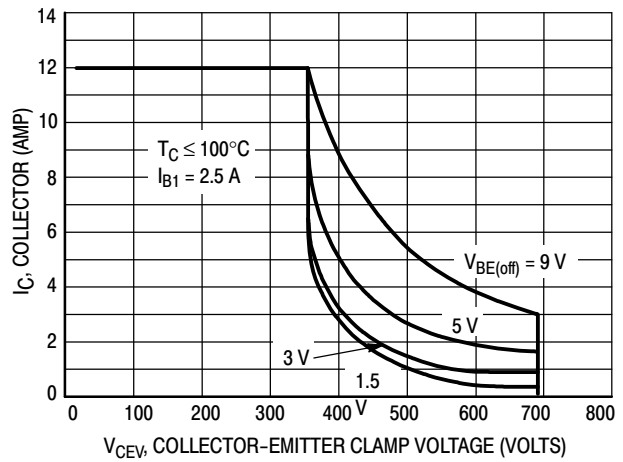
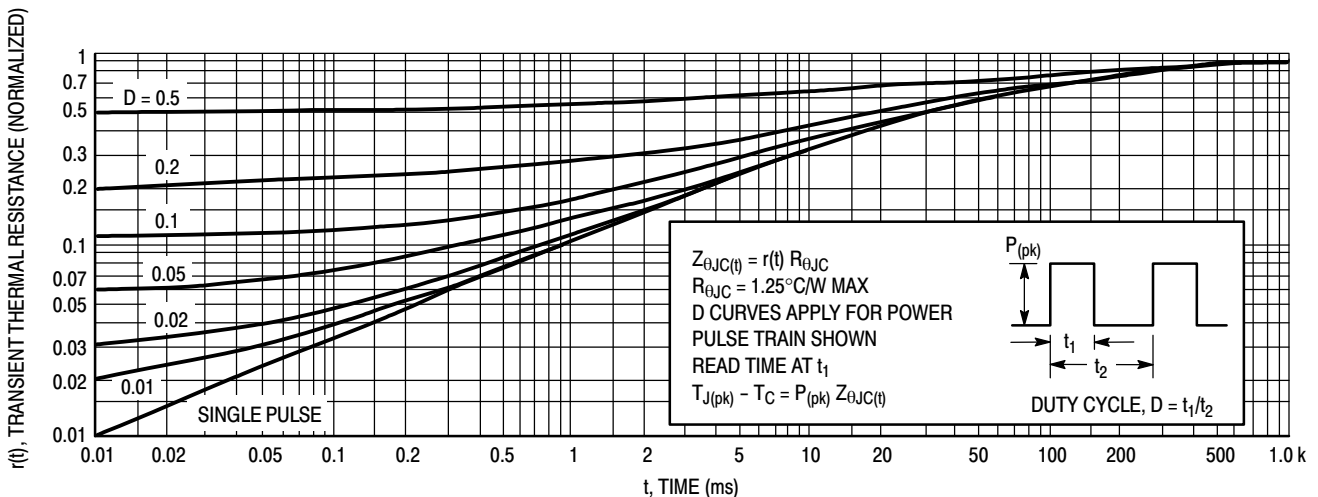

Figure 2. Reverse Bias Switching Safe Operating Area
Figure 4. Typical Thermal Response $[Z_{\theta JC}(t)]$
$T_{J(pk)}$ may be calculated from the data in Figure 4. At high case temperatures, thermal limitations will reduce the power that can be handled to values less than the limitations imposed by second breakdown. Use of reverse biased safe operating area data (Figure 2) is discussed in the applications information section.
For inductive loads, high voltage and current must be sustained simultaneously during turn-off, in most cases, with the base to emitter junction reverse biased. Under these conditions the collector voltage must be held to a safe level at or below a specific value of collector current. This can be accomplished by several means such as active clamping, RC snubbing, load line shaping, etc. The safe level for these devices is specified as a Reverse Bias Safe Operating Area (Figure 2) which represents voltage-current conditions that can be sustained during reverse biased turn-off. This rating is verified under clamped conditions so that the device is never subjected to an avalanche mode.
3. The base drive conditions are within the specified limits shown on the Reverse Bias SOA curve (Figure 2).